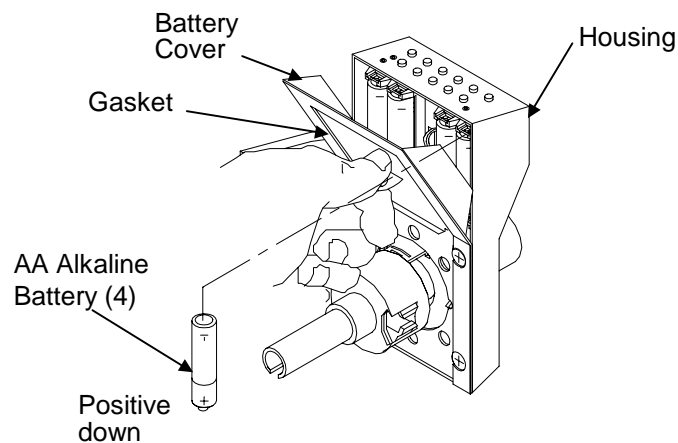

Figure 5 Battery Orientation and Replacement
- Step 10 Using the tab on the Battery Cover, carefully pull the Battery Cover away from the Housing to expose the Batteries (Figure 5).
- Step 11 Remove and replace each of the old Batteries, **one at a time**, with the plus (+) end *down* (Figure 5).